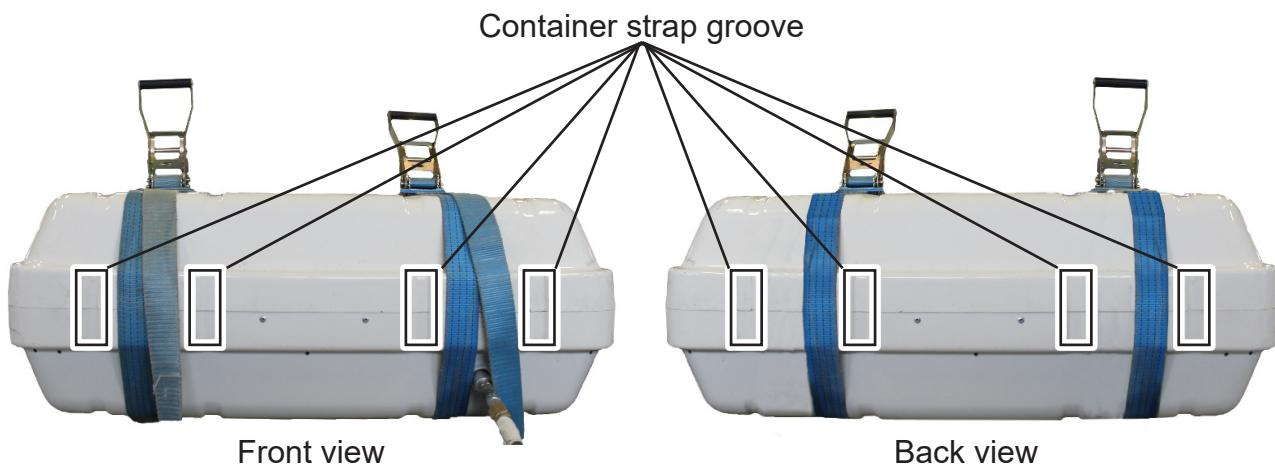

FIGURE 899S
- 9.54 Use 50 mm self-adhesive tape to create 50 × 50 mm tape squares for each container strap groove. Refer to **Figure 899S**.